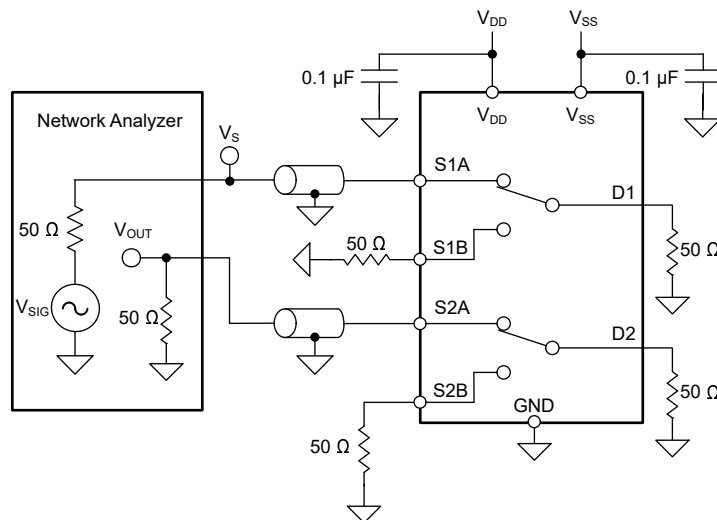

Figure 7-16. Inter-Channel Crosstalk Measurement Setup
2. Inter-channel crosstalk ($X_{TALK(INTER)}$): the voltage at the source pin (S_x) of an on-switch input, when a $1-V_{RMS}$ signal is applied at the source pin of an on-switch input in a different channel, as shown in Figure 7-16.